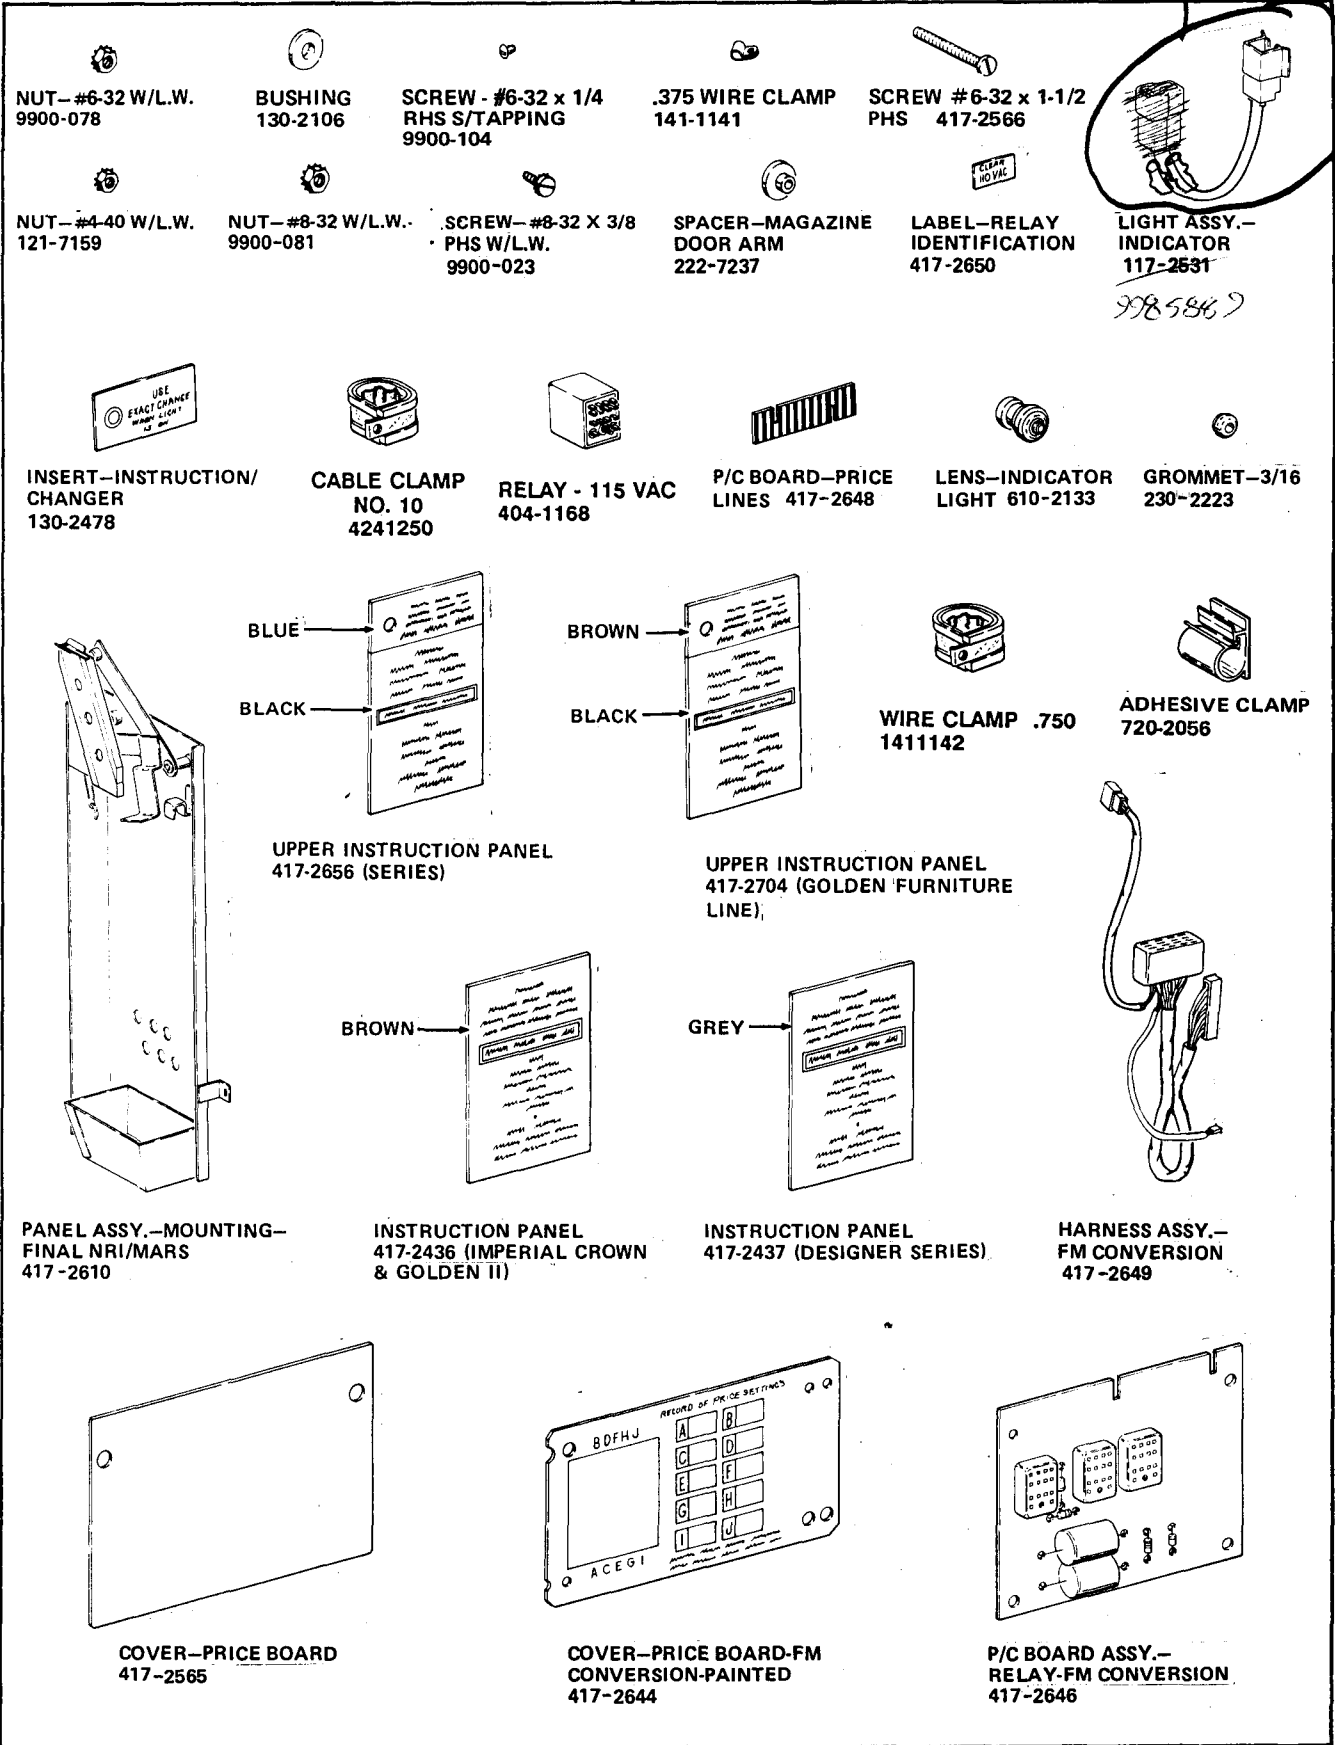

FIGURE 1
CHECK THE PARTS RECEIVED IN THE KIT WITH THE PARTS LIST IN THESE INSTRUCTIONS. FIGURE 1 SHOWS ALL THE PARTS IN THE KIT. IF ANY PARTS ARE MISSING, CONTACT NATIONAL VENDORS' PARTS DEPARTMENT IMMEDIATELY.
2. *The Upper Instruction Panel, part number 417-2656, is used on the Series style Merchandiser. The Upper Instruction Panel, part number 417-2704, is used on the Golden Furniture Line style Merchandiser. See Figure 1 to distinguish between the two Panels.*
2. *The Instruction Panel, part number 417-2436, is used on Imperial Crown and Golden II style Merchandisers. The Instruction Panel, part number 417-2437 is used on Designer Series style Merchandisers. See Figure 1 to distinguish between the two Panels.*